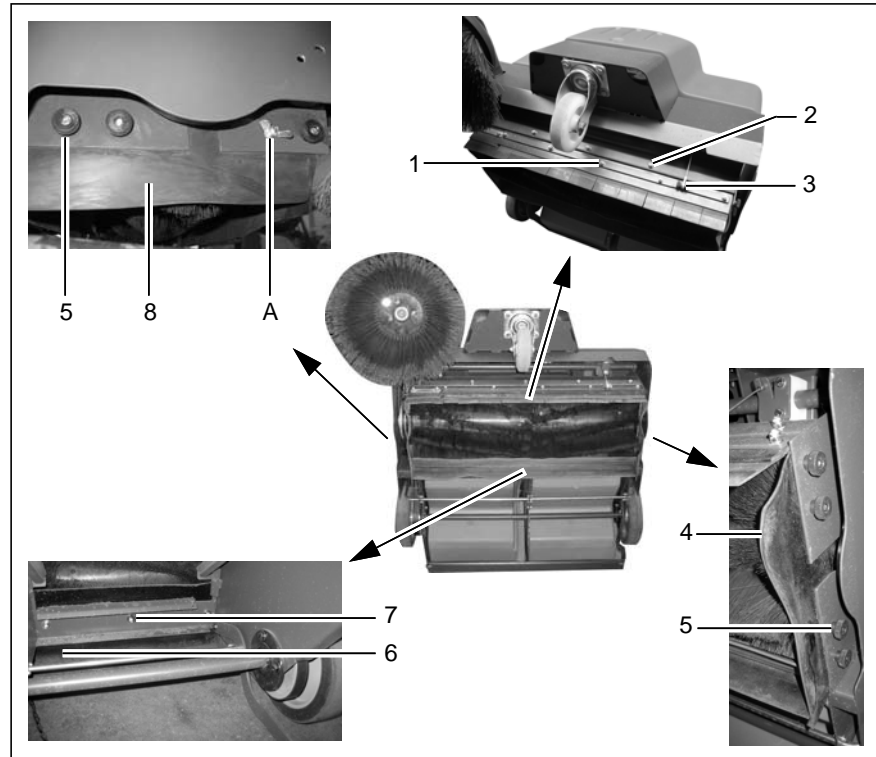
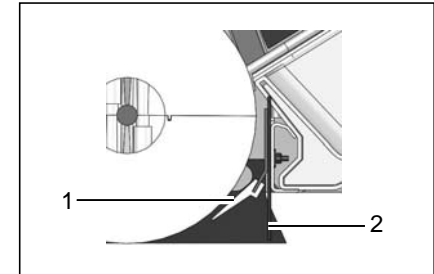

Fig. 22
Fig. 23
2. Unhook the Bowden cable which raises the folding apron (Fig. 22/3).
3. Disassemble the folding apron (Fig. 22/1) together with its holder: Unscrew the screw connections (Fig. 22/2).
4. Unscrew the screw connections (Fig. 22/2) in the clamping rail and remove the clamping rail.
7. Assemble the folding apron (Fig. 22/1) together with its holder and adjust the folding apron (Fig. 22/1) so that it lies lightly on the ground.
8. Hook in the Bowden cable which raises the folding apron (Fig. 22/3).
9. Unscrew the screw connections (Fig. 22/5) in the side aprons (Fig. 22/4+8).
10. Change the sealing strips and adjust the side aprons (Fig. 22/4+8): There must be approx. 0.08 in clearance to the floor.
11. Screw the screw connections (Fig. 22/5) back in the side aprons (Fig. 22/4+8). Also screw the ground of the wing nut at Position A (Fig. 22/A).
13. Unscrew the screw connections (Fig. 22/7) in the rear aprons (Fig. 23/1+2).
14. Change the sealing strip and adjust the rear apron (Fig. 22/6): The clearance of the rear apron (Fig. 23/2) from the ground must be 0.08 in.
15. Screw the screw connections (Fig. 22/7) back in the rear aprons (Fig. 23/1+2).